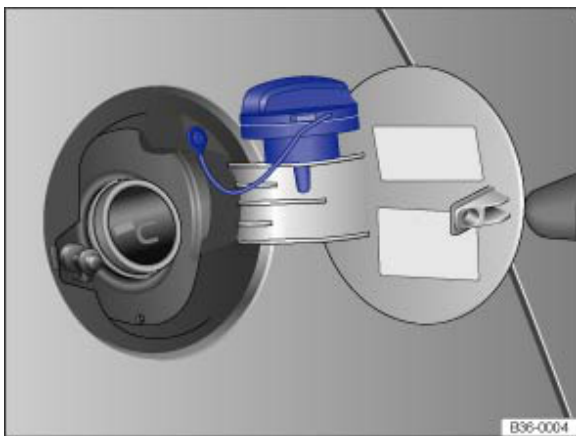

Fig. 188 Open tank flap with tank cap attached to the holder
- Turn the tank cap anti-clockwise to remove it and place it in the holder in the tank flap hinge → Fig. 188 .